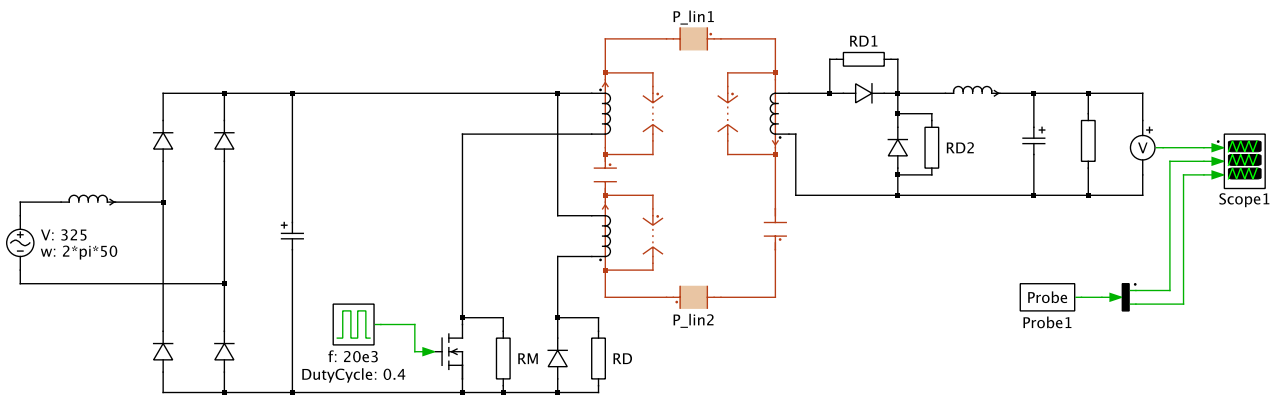

Figure 3: Forward converter with a magnetic circuit, including a linear core, air gaps, and winding leakages
Table 1: Key parameters of the linear core elements shown in Fig. 3
- 1 Remove the electrical circuit representing the transformer, including the ideal three-winding transformer and the four inductors. Connect the three broken electrical terminals to the magnetic domain using Winding components. Please observe the arrow direction of the windings shown in Fig. 3. Use 72 turns for the primary and demagnetizing windings (N_1 , N_3) and 6 turns for the secondary winding (N_2). Keep in mind that the secondary and the demagnetizing winding have to be wound with negative polarity. This can be configured in the component mask of each winding.
- 2 Add a Linear Core component at the top and bottom of the magnetic circuit and complete the loop by wiring together the core halves and windings. Also add an Air Gap component on each side of the circuit, as well as Leakage Flux Path components in parallel with each winding, as shown in Fig. 3. Enter the core parameters for the **Cross-sectional area**, **Length of flux path** and **Unsaturated relative permeability** using the values in Table 1. For a Linear Core the **Unsaturated relative permeability** is equal to the relative permeability μ_r .